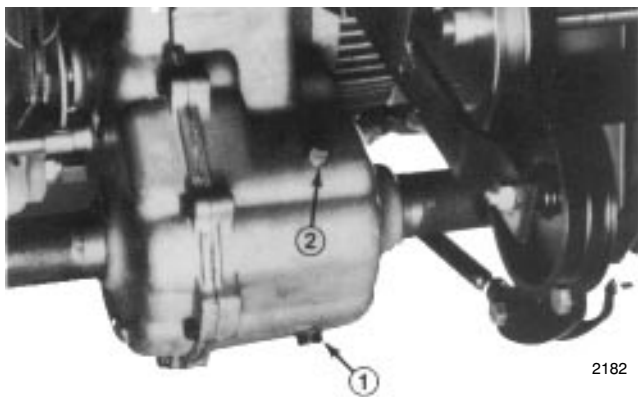

Figure 34
2. Clean area around drain plug and place a drain pan below drain plug on axle (Fig. 34).
3. Remove drain plug and allow oil to flow into drain pan (Fig. 34). After oil is drained, reinstall drain plug.
4. Remove fill plug and fill to plug level with SAE EP-90 wt. oil (approximately 44 oz. (14.9cl)) (Fig. 34).